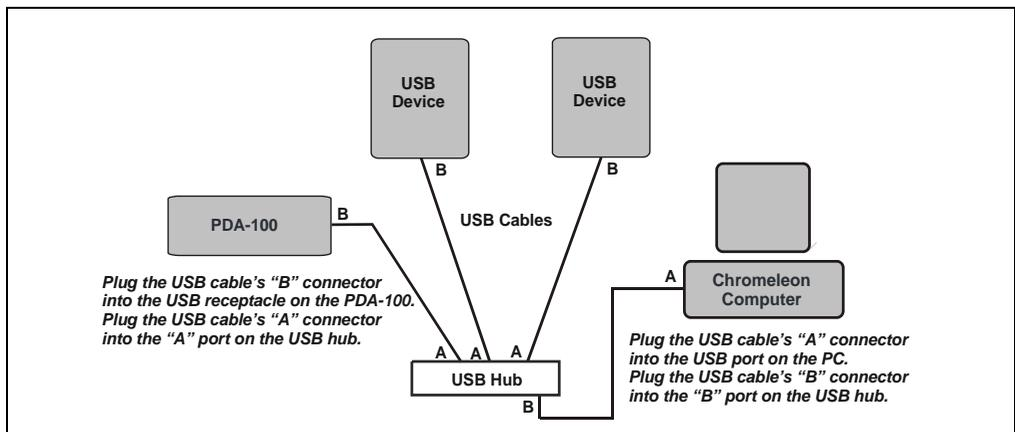

Figure B-2. Three USB Devices Connected to a USB Hub
1. Plug the “A” connector of a USB cable (P/N 960777) into a port on the external USB hub (P/N 060392). Plug the “B” connector of the cable into the USB receptacle on the PDA-100 rear panel (see Figure B-2).
2. Plug the “A” connector of a USB cable (P/N 960777) into a USB port on the computer. Plug the “B” connector of the cable into a port on the USB hub (see Figure B-2).